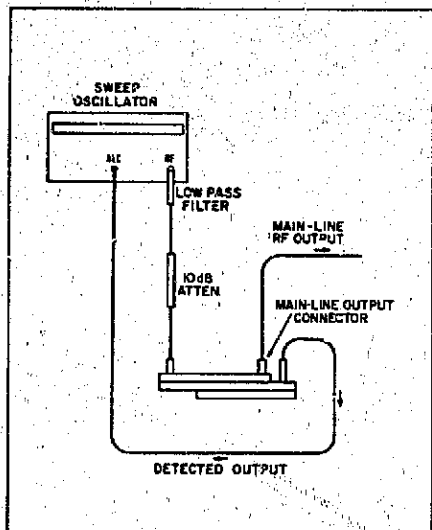

Figure 4. Typical Closed-Loop Leveling Setup
**Technique.** The Directional Detector has a direct application in systems employing closed-loop leveling of the RF source. Any variation in the RF output level causes a proportional variation in the detected output level and is used for maintaining a constant RF output level. These detected output variations, when applied to a sensitive dc amplifier such as the leveler amplifier built into the HP Model 8690-series Sweep Oscillator, are amplified to produce control voltages used to maintain a leveled RF output (refer to Figure 4).